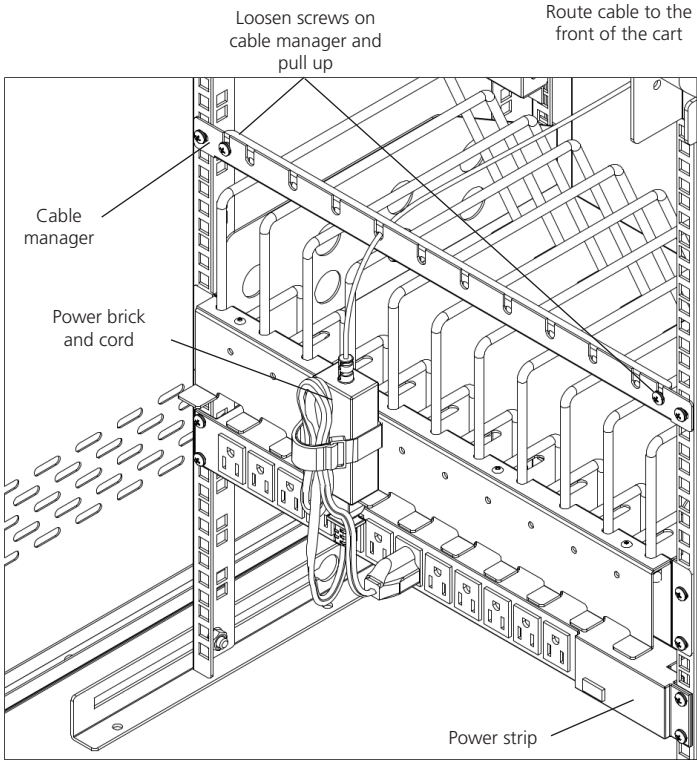

Figure 4-4. Fastening the power brick and routing the cable..
1. Attach the wrapped cord and power brick to the back of the shelf using the hook and loop strap. Keep some extra cable unwrapped to plug into the power strip. (See Figure 4-4.)